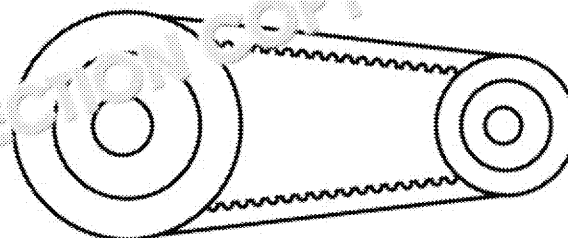

Figure 2
- 10 Figure 2 shows a mechanical system.